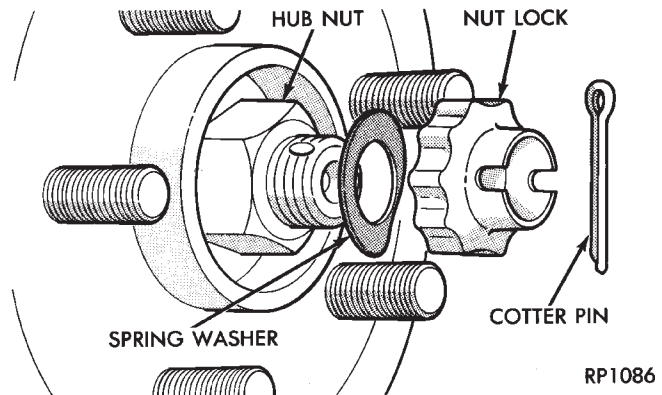

Fig. 1 Cotter Pin, Nut Lock and Spring Washer
- (1) Remove cotter pin, nut lock, and spring washer from the end of the outer C/V joint stub axle (Fig. 1).